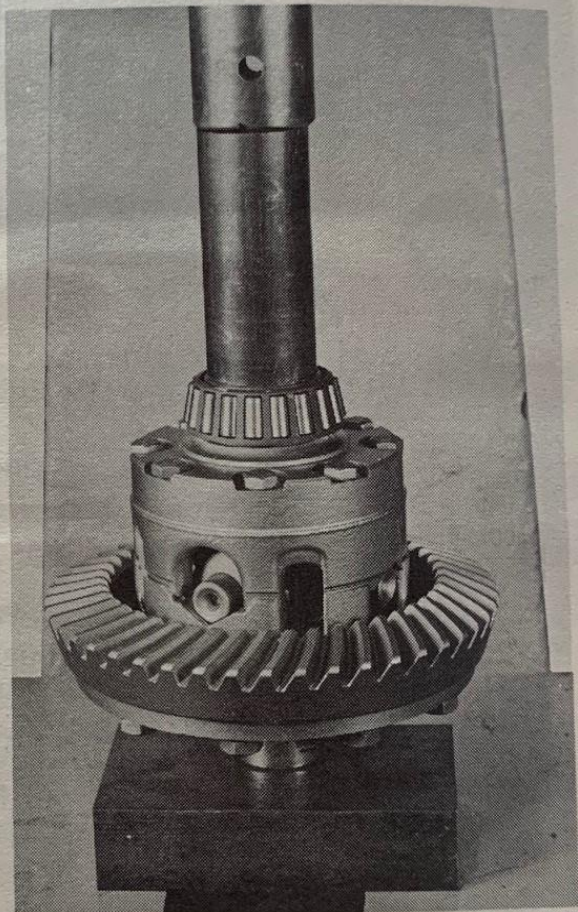

Fig. 7
19. Remove the Differential Case Assembly. Keep the shim packs separated. Remove the bearing cones—use a bearing puller. Care must be taken to insure that the puller is located in the casting recesses of the Case so as not to pull on the roller cage. Then place each shim pack on the Differential Case under the bearing cone; make sure the pack with the .015" additional shims is on the ring gear tooth side. Press bearing cones in place. (See Fig. 7.)